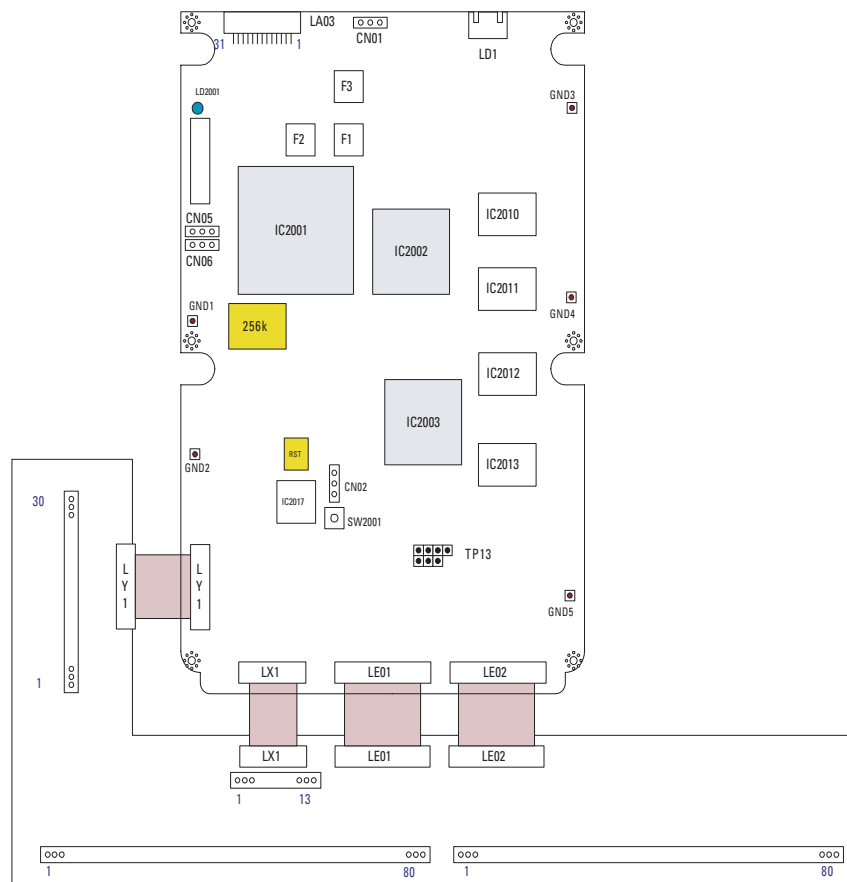

Figure 6. Connecting between the logic main board and the JIG board for examination
- ③ As shown in Figure 6, connect the logic main board and the JIG board for examination using the cables connecting LX1(13P), LY1(30P), LE01, and LE02(80P).
- ④ Set the oscilloscope to 5ms/div, 2V/div.
(2) Logic main board
① Set the logic main board as Figure 6 shows.